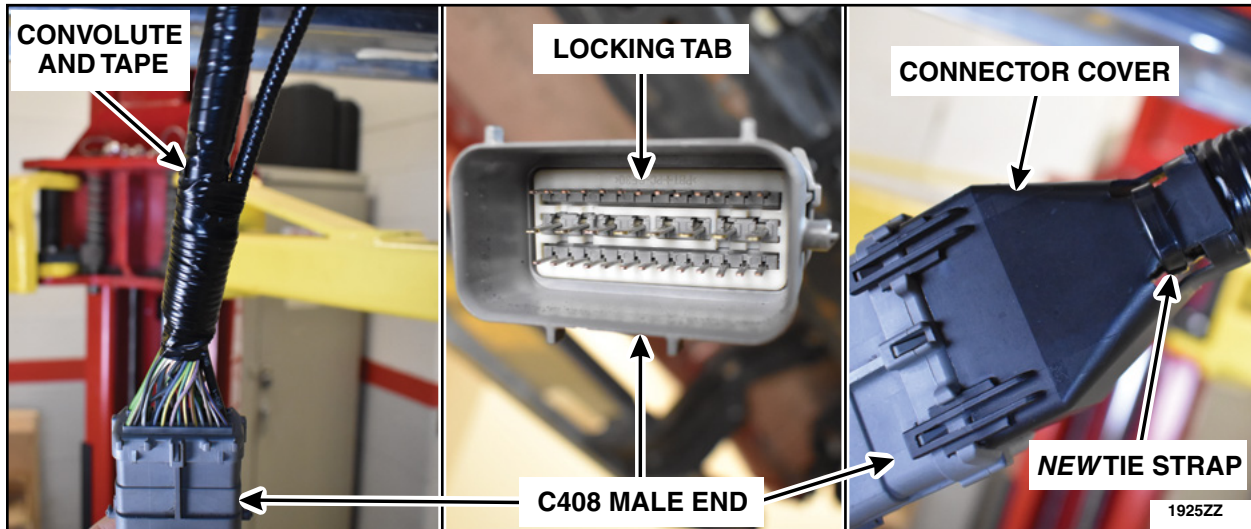

FIGURE 45
47. Reapply the convolute and tape to the C408 male end connector harness. Install the C408 male end white locking tab, cover and a new tie strap. See Figure 45.